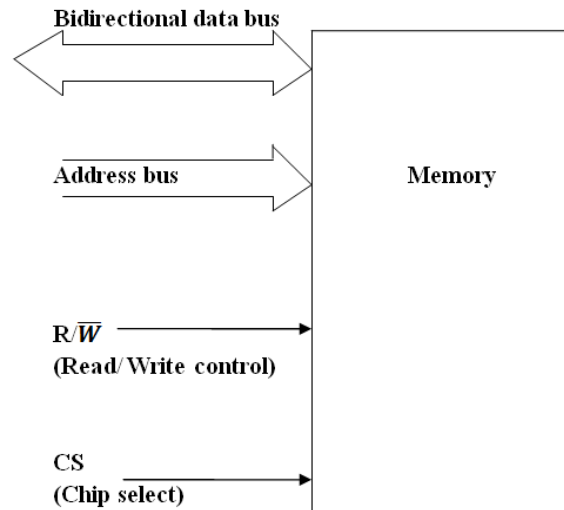

Fig.2.5: Block Diagram of Memory with Bidirectional Data Bus
For the device to receive instructions to carry out the specified action, several control inputs are required. For instance, a command signal is needed to inform the memory whether a read or write operation (R/\bar{W} in Figure 2.5) is intended. When the R/\bar{W} signal is **LOW**, the data bus acts as an input bus, allowing data to enter the memory, whereas when the R/\bar{W} signal is **HIGH**, the data bus acts as an output bus and reads the data from memory. Inputs for other commands include chip enable (CE), chip select (CS), etc. A minimum of two pins are needed for the power supply and ground in addition to the functional pins mentioned above. Figure 6 illustrates the internal layout of a 16x4 memory chip. Read and write operations are explained below.